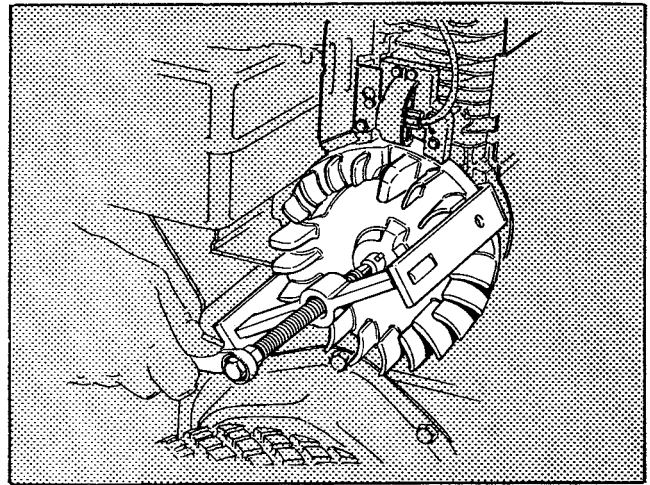

FIGURE 3
5. Remove the flywheel by using a gear puller as illustrated. (See figure 3).